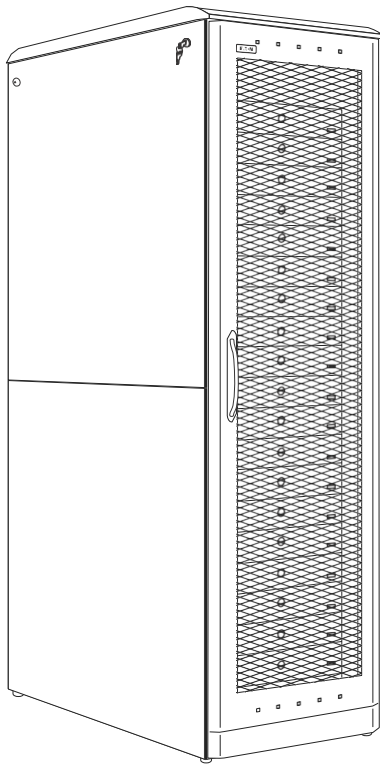

Figure 2. Standard Cabinet Used for BladeUPS
- 6U height that fits any standard 19-inch rack (see Figure 2).